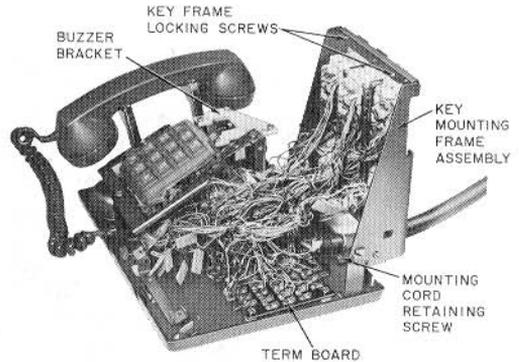
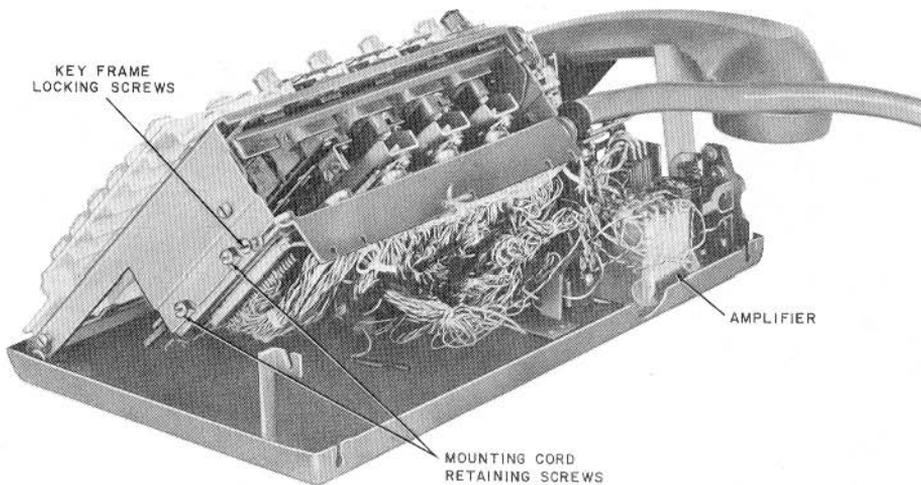

Fig. 21—Key Frame Raised in Current Production Telephone Set
Fig. 22—Key Frame Raised on Early Production Telephone Set
- (1) Remove housing.
- (2) Remove mounting cord clamp.
- (3) Loosen key frame locking screws. [Located on front of key frame on current production telephone sets (Fig. 21) and on the side of key frame on early production sets (Fig. 22)].
- (4) Raise key frame (Fig. 21 and 22).
- (5) Remove dial mounting plate (do not disconnect leads).
- (6) Disconnect mounting cord leads at network, terminal board, and amplifier (when provided).
(7) Remove mounting cord retaining screws on each side of key frame (early production sets).
(8) Pull down on mounting cord frame to disengage plugs from key connectors on early production sets or disconnect individual 508- or 509-type plugs on current production sets.
(9) Install cord assembly in reverse order.